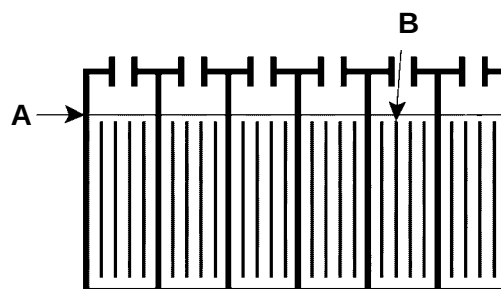

FIG. 23
4. Check fluid level (A) in each battery cell before charging. If battery plates (B) are exposed, add just enough distilled water to cover plates by approximately 3mm (0.13 in). DO NOT OVERFILL. Overfilled batteries can overflow during charging due to expansion. Replace cell caps before charging (Figure 23).